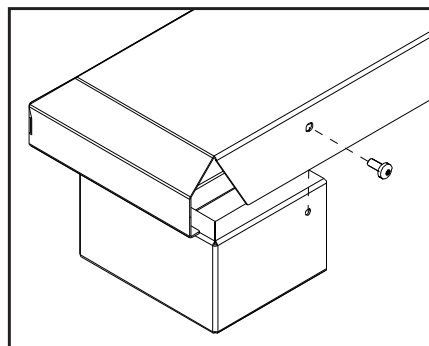

Figure 35: Installing Base Shelf onto Riser.
3. If installing with riser(s) the Base Shelf is to be fastened to the riser(s) with one T-20 screw at each end of the back (see Figure 35).